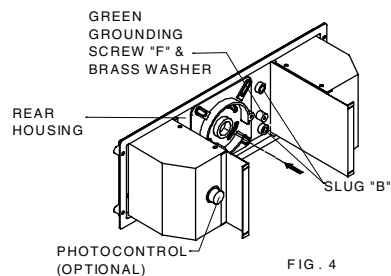

FIG. 4
3. MOUNTING WITH FOUR BOLTS (FIG. 4)